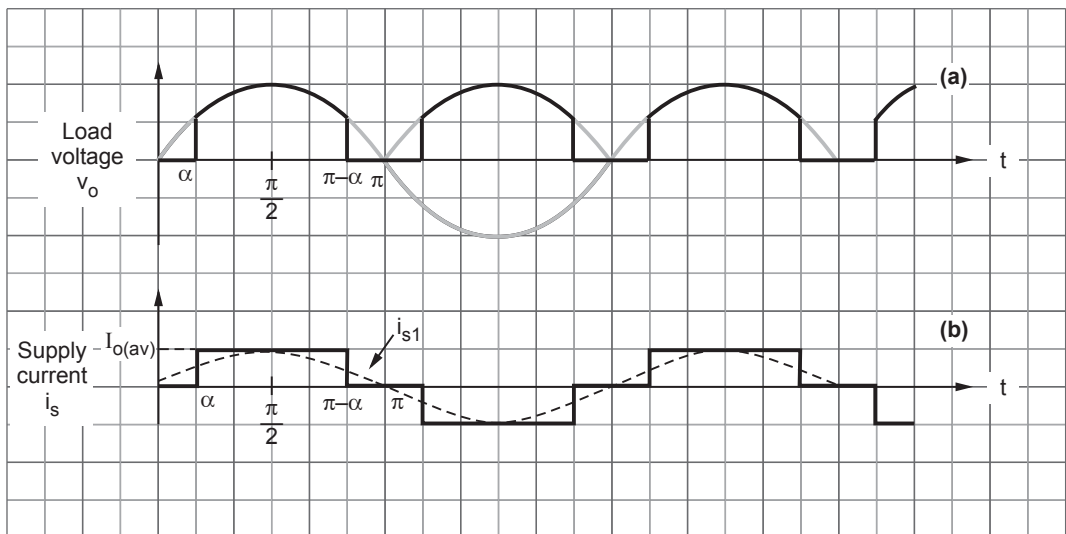

Fig. 2.5.3 Waveforms of symmetrical angle control
Fig. 2.5.3 shows the waveforms of symmetrical angle control.
- The SCR T_1 is triggered at α and turned off at $\pi - \alpha$. Thus $\beta = \pi - \alpha$. Fig. 2.5.3 (b) shows the supply current waveform for ripple free load current. Observe that the supply current pulse is symmetric around $\frac{\pi}{2}$.
- The dotted line in Fig. 2.5.3 (b) shows fundamental component (i_{s1}) of supply current. Note that this fundamental component is in phase with respect to supply voltage. Therefore displacement factor is unity. This improves power factor.